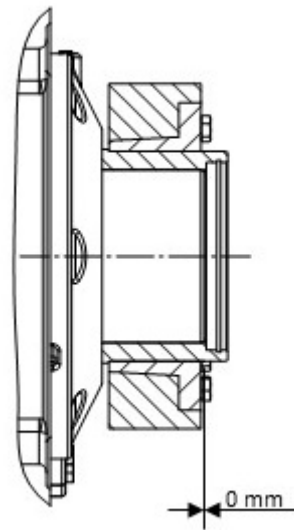

Figure 15: Fitted shrink disc
7. After tightening the tensioning bolts the face of the inner ring on the screw side must be flush with the face of the outer ring. The shrink disc must be checked visually for distortion (Figure 15).